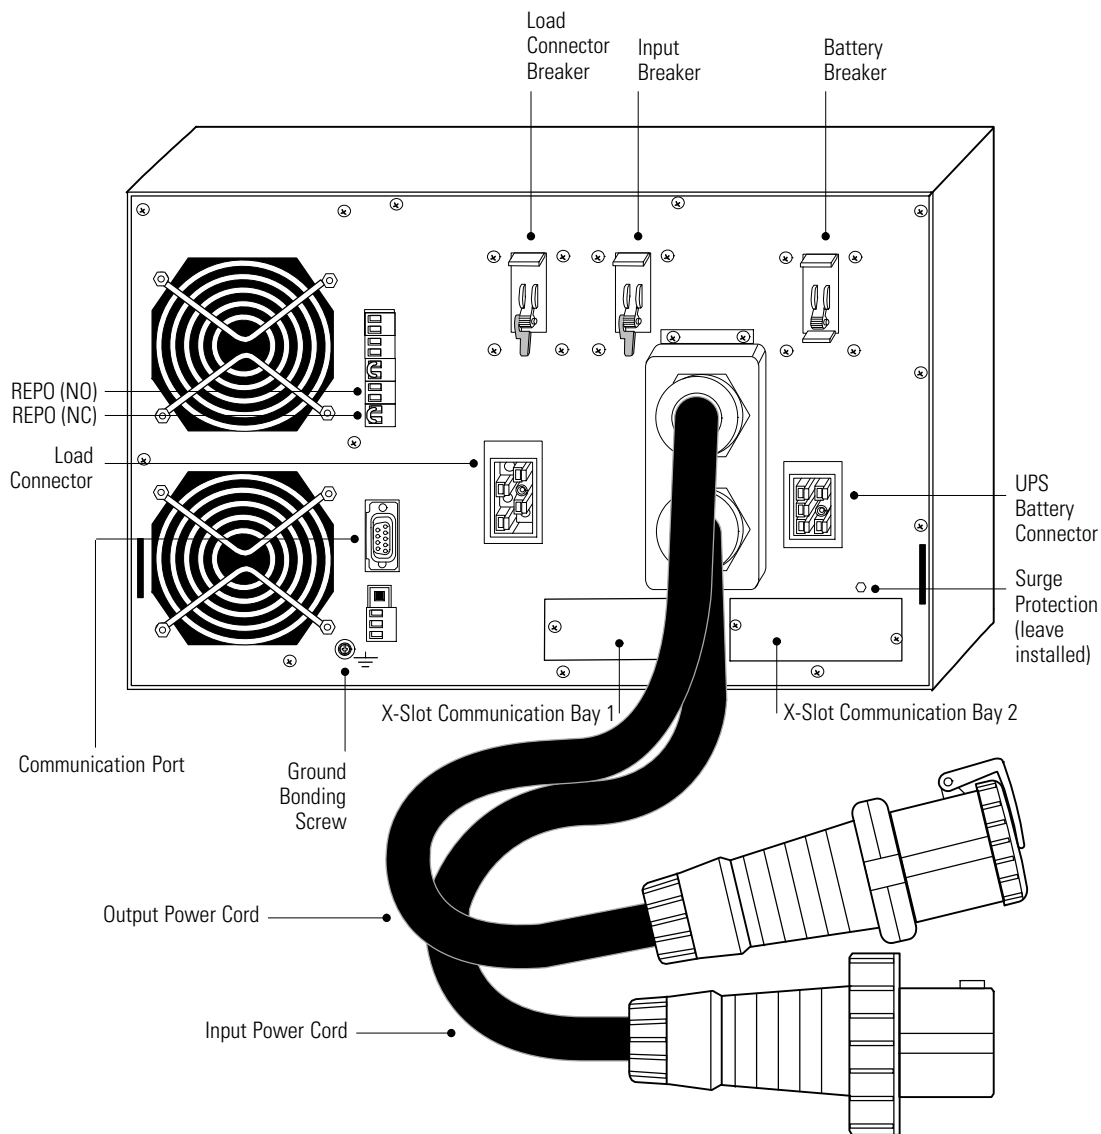

Figure 32. BladeUPS Module Rear Panel (Standalone UPS Shown with IEC 309-60A Output Power Cord)
1. Verify that the circuit breakers on the UPS rear panel are in the OFF (O) position (see Figure 32 on page 43).
4. If your rack has conductors for grounding or bonding of ungrounded metal parts, connect the ground cable (not included) to the ground bonding screw. See Figure 32 for the location of the ground bonding screw.
17. If your rack has conductors for grounding or bonding of ungrounded metal parts, connect the ground cable (not included) to the ground bonding screw. See Figure 32 on page 43 for the location of the ground bonding screw.
- 11.** If your rack has conductors for grounding or bonding of ungrounded metal parts, connect the ground cable (not included) to the ground bonding screw. See Figure 32 on page 43 for the location of the ground bonding screw.
NOTE Eaton recommends installing the Powerware Hot Sync CAN Bridge Card in X-Slot Communication Bay 2 (see Figure 32 on page 43), leaving the X-Slot Communication Bay 1 available for other types of X-Slot cards.